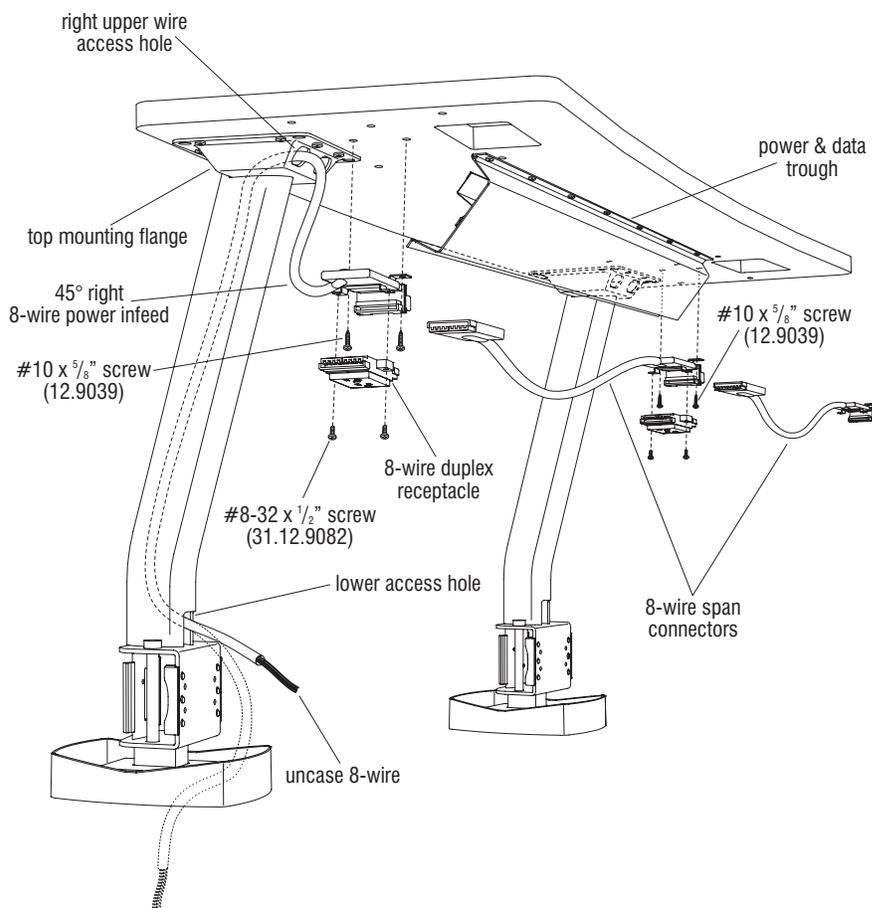
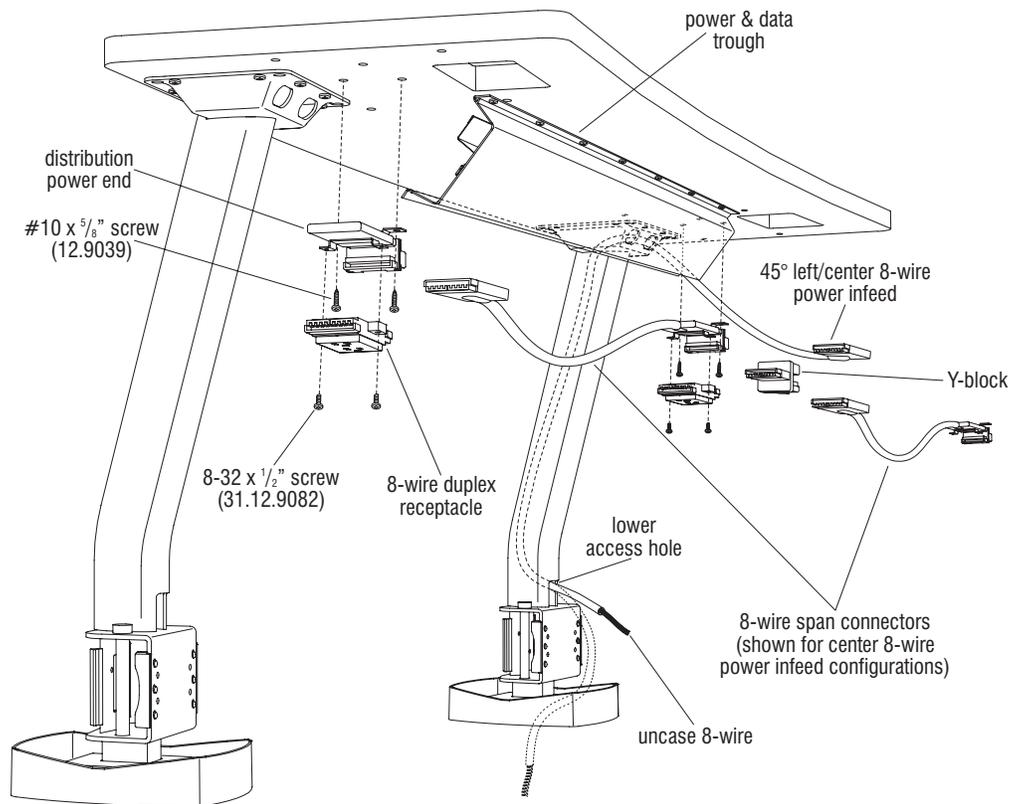

Figure 8
Figure 9
Note: If power and/or data lines are to enter a base from below floor level (no exposed connections), the data and power connections must be made prior to securing the base flange to the floor. The 8-wire power infeed (45° right or left/center) must be run down through the top mounting flange, oval support tube and then the base flange at this time. Connections must then be made. Refer to the space-planning layout for infeed type and see Figures 8 or 9. Data wires must run up a separate column, following a similar route as the power.
22. Fasten the hinge side of the power & data trough to the underside of the worksurface with the 10 x ⁵/₈” screws provided and torque to 25 in/lbs. All screw holes in the trough must be utilized. The power & data trough can be left hanging open for installation of the electrical and data cabling (Figure 8).
Note: The 45° right 8-wire power infeed (Figure 8) is to be used at the beginning of an electrical run where the power feeds through
the lower wire access hole at the right side of a run of units (facing the front of the room). The 45° left/center 8-wire power infeed (Figure 9) can be used in two circumstances. One is where power is to enter a run of units from the lower wire access hole at the left side of a run of units (facing the front of the room), and the other circumstance is when the power infeed is to enter at the center of a run of units.
24. For **right 8-wire power infeed** configurations, feed the uncased 8-wire end of the 45° right power infeed first through the "right upper wire access hole" in the top mounting flange, and then down the oval tube and out of the lower wire access hole (Figure 8). Mount the opposite end of the 45° right power infeed to the underside of the worksurface with two #10 x 5/8" screws provided at the guidemarks drawn through the hardboard template in step 20. Torque screws to 25 in/lbs. To extend power to the next station for **right infeed** configurations, insert and click the plug end of a 8-wire span connector into the mounted end of the span connector and fasten the mounting end to the worksurface at the next set of electrical guidemarks (Figure 8).
25. Look to the left side of the worksurface underside (facing the front of the room) for the electrical guidemarks that were drawn through the hardboard template. For either **right or left infeed** configurations (Figures 8 & 9), mount an 8-wire span connector to the underside of the worksurface with #10 x 5/8" screws provided at the electrical guidemarks. Torque screws to 25 in/lbs. For **right 8-wire power infeed configurations**, route the flexible conduit through the power & data trough and plug the 8-wire span connector into the 45° right power infeed that was installed in step 23 (Figure 8).
For **left or center 8-wire power infeed** configurations, feed the uncased 8-wire end of the 45° left/center power infeed first through the “right upper wire access hole” in the top mounting flange, and then down the base and out of the lower wire access hole (Figure 9). The opposite end of the 45° left/center power infeed will be left to hang until step 26 below.
Note: Next in step 26, for **left/center 8-wire power infeed** configurations, (Figure 9) the distribution power end may be substituted for an 8-wire span connector if power is to be continued beyond that point to another station.
26. For **left/center 8-wire power infeed** configurations, first mount a distribution power end to the right underside of the worksurface (facing the front of the room) at the electrical guidemarks with #10 x 5/8" screws provided. Torque screws to 25 in/lbs. Plug the 8-wire span connector into the distribution power end making sure that the flexible conduit is cradled by the power & data trough (Figure 9). Next, at the end where the 8-wire span connector was fastened to the worksurface, plug a Y-block into the station-to-station power connector and plug the 45° left power infeed into the top opening of the Y-block (Figure 9). For **center 8-wire power infeed** configurations, the plug-end of a 8-wire span connector can be plugged into the bottom opening in the Y-block to continue power on to the next station (Figure 9).
27. Following the space-planning diagram, install 8-wire duplex receptacles with #8-32 x 1/2" screws provided (torque to 20 in/lbs) to 45° right power infeed and 8-wire span connectors (Figure 8), or distribution power end and span connectors (Figure 9).